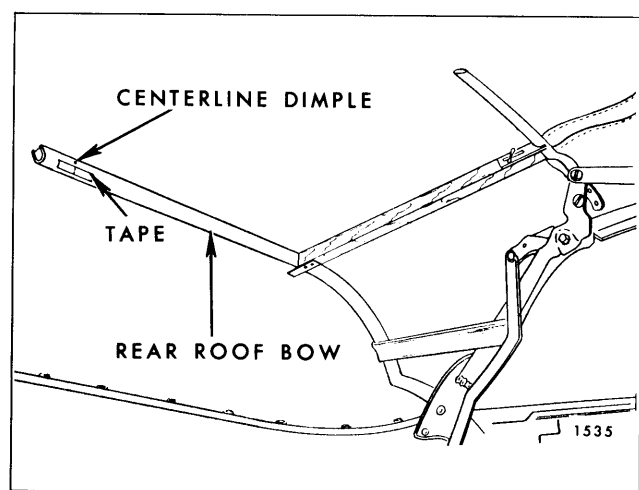

Fig. 13-36—Marking Rear Roof Bow
5. Along forward surface of rear roof bow install a 1" piece of tape at centerline dimple of rear roof bow. Using a pencil, mark centerline of rear bow on tape (Fig. 13-36).
NOTE: The deck seam mark will vary slightly ($\pm 1/4''$) depending upon position of rear roof bow. Also check centerline mark on inner lining of top material. Mark should correspond to centerline mark on rear roof bow (Fig. 13-36).